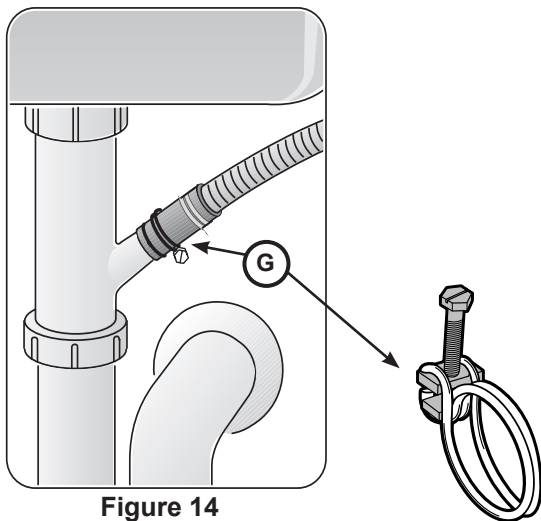

Figure 14
4. Use the clamp provided to attach the Rubber Drain Hose Adaptor to the house plumbing as shown in **Figure 14.**